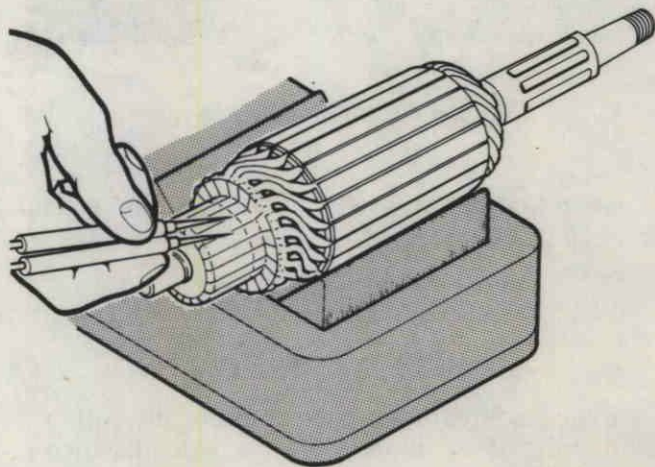

Figure 53. Armature Balance Test.
- A. Place armature in growler jaws and turn power switch to GROWLER position. Figure 53.